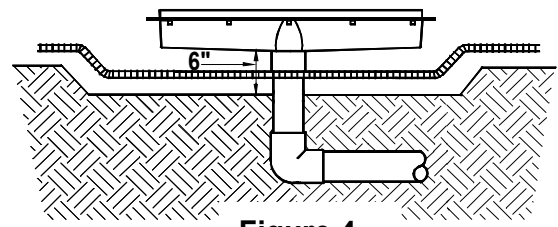

Figure 4
The Channel Drain may be configured to accommodate more than one pump by ordering from A&A Manufacturing and additional suction port to the bottom of the unit (see Figure 4).
12. The steel re-bar must be bent so that the steel basket drops below the channel drain and is formed so that it is half way between the bottom of the Channel Drain and the bottom of the trench (see Figure 4).